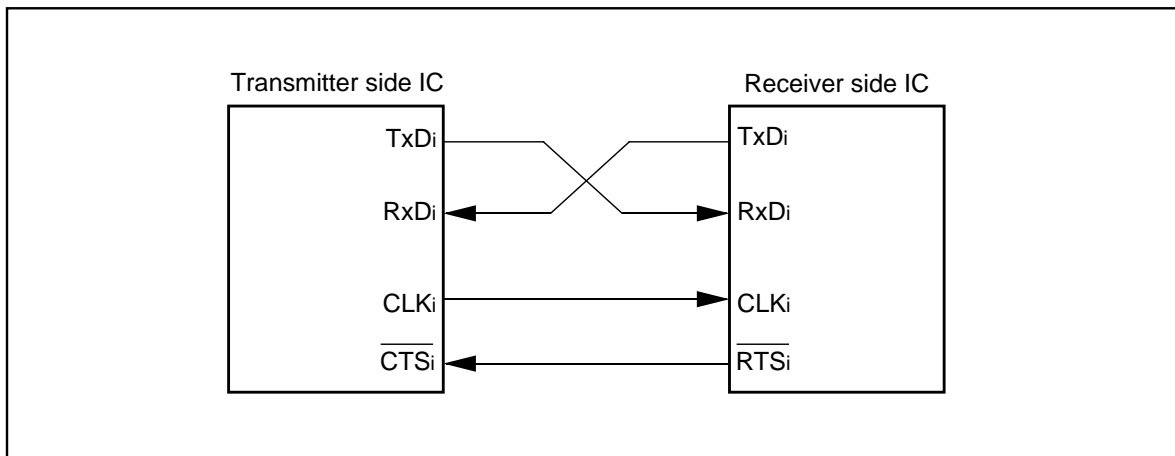

Figure 2.3.11. Example of wiring
- (1) With an external clock selected, and choosing the $\overline{\text{RTSi}}$ function, the output level of the $\overline{\text{RTSi}}$ pin goes to "L" when the data-receivable status becomes ready, which informs the transmission side that the reception has become ready. The output level of the $\overline{\text{RTSi}}$ pin goes to "H" when reception starts. So if the $\overline{\text{RTSi}}$ pin is connected to the $\overline{\text{CTSi}}$ pin on the transmission side, the circuit can transmission and reception data with consistent timing. With the internal clock, the $\overline{\text{RTS}}$ function has no effect. Figure 2.3.11 shows an example of wiring.